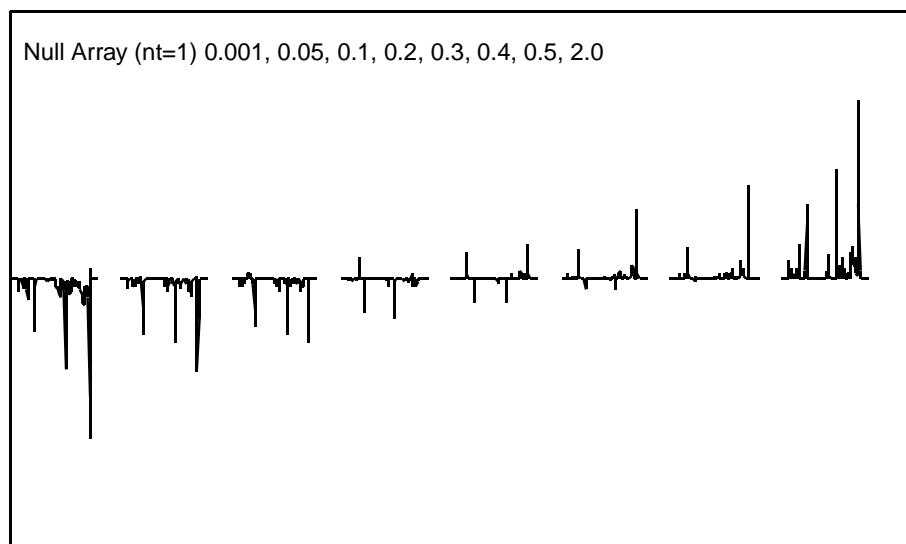

Figure 54. Optimizing the BIRD Nulling Time
8. Now, if appropriate, optimize the parameter **null**. Set **nt**=1 **ss**=4 and enter an array of **null** values with at least one very short value (e.g., 0.001) and one very long value (e.g., 2.0). Because this experiment depends on the relaxation times of the spins involved, you'll also want to set **at** and **d1** to the same values you'll be using in the 2D experiment. Now run the array and select the value of **null** for which either most of the peaks, or the biggest peaks, or the peaks you are most interested in (the criterion is up to you), are approximately zero; remember, no one value of **null** will be correct for all peaks. Figure 54 shows this experiment run on a sample of 28 mg of gramicidin, with **null** arrayed over the range of values: 0.001, 0.05, 0.1, 0.2, 0.3, 0.4, 0.5, and 2.0; examination of the spectra shows clearly how different values of **null** might be chosen.